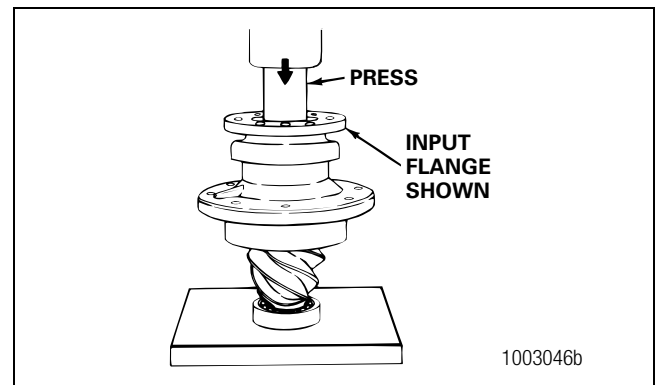

Figure 5.15
1. Use a press to install the input yoke or flange, nut and washer, if equipped, onto the drive pinion. The yoke or flange must be seated against the outer bearing. Figure 5.15.